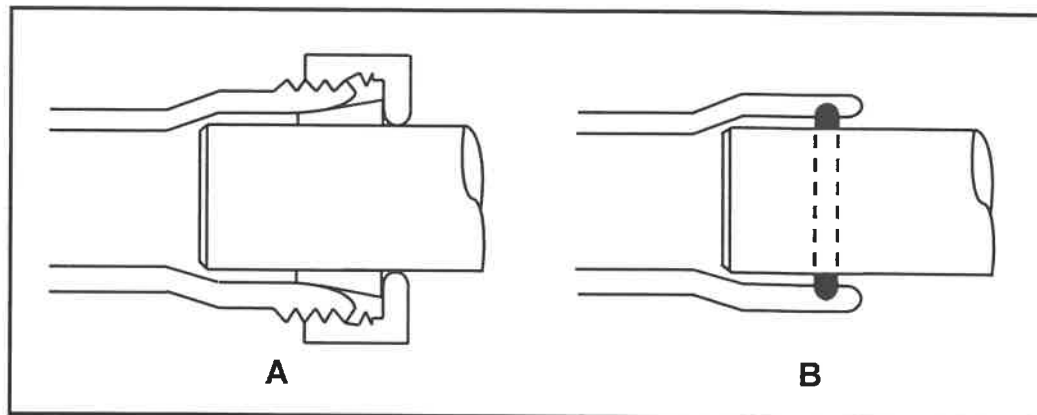

FIGURE 6.2
- 6.2 FIGURE 6.2 below shows TWO different types of joining methods for joining PVC pipes.